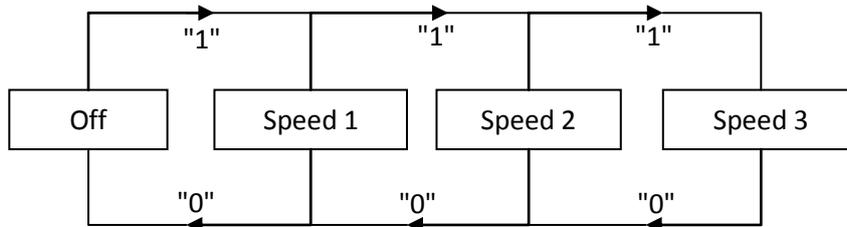
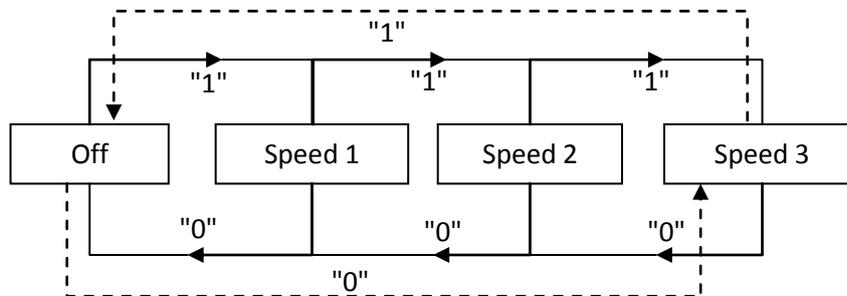

Figure 2.1. Non cyclical manual step control
Figure 2.2. Cyclical manual step control
- **Step control:** the ventilation level/speed is controlled through the 1-bit communication object "Fan Step control", by writing a "1" to increase one level or a "0" to decrease it. This control type can be non cyclical (see figure 2.1) or cyclical (figure 2.2).